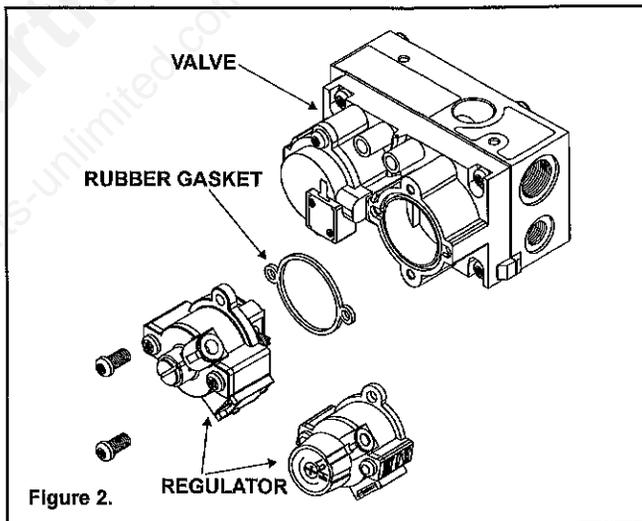

Figure 2.
4. Using a #20 tamper-proof Torx, remove the regulator and rubber gasket on face of valve (see Figure 2). Discard both the regulator and gasket. Remove green wire from regulator.
5. Install the new regulator with the new rubber gasket included in the conversion kit (see Figure 2). Leave green wire disconnected at this point.